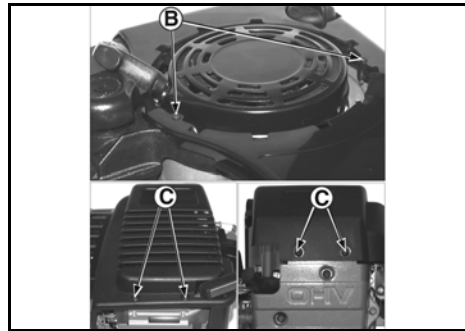

Figure 15
3. Install screws (B, Figure 15) to trim plate or (C) to rewind guard. Torque screws to values listed in Section 12 - Engine Specifications.